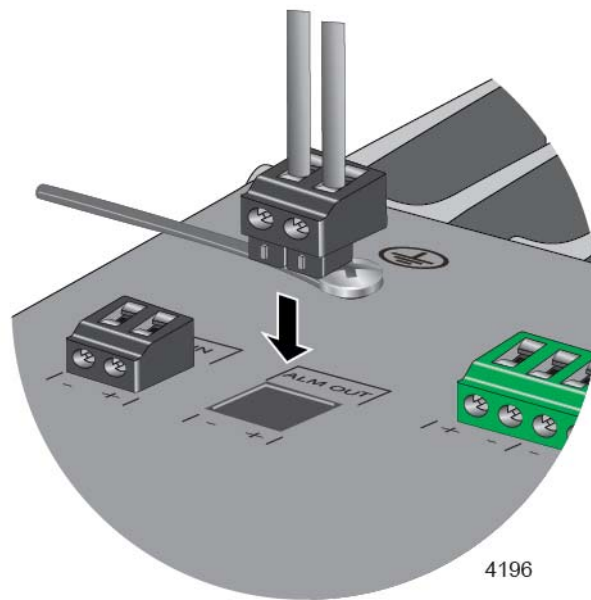

Figure 40. Inserting the DC Connector into the Alarm Connector
7. Insert the alarm connector back into its connector on the switch. Refer to Figure 40 on page 91.